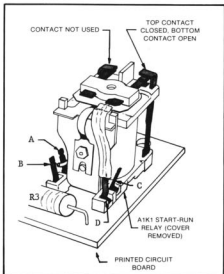

FIGURE 5-10. START-RUN RELAY A1K1 (SPEC D)
- Take out the printed circuit board and remove the cover from the Start-Run relay A'K' (marked "K1" on board). See Figure 5-10 for references during tests.
- With the VOM set at x10, measure resistance between A and B — should be approximately 34 ohms. Resistance between A and C or B and C should be approximately 650 ohms (x100 scale). As shown in Figure 5-10, the top K' contact should be closed, the bottom contact open. There should be continuity between the top contact and point D.